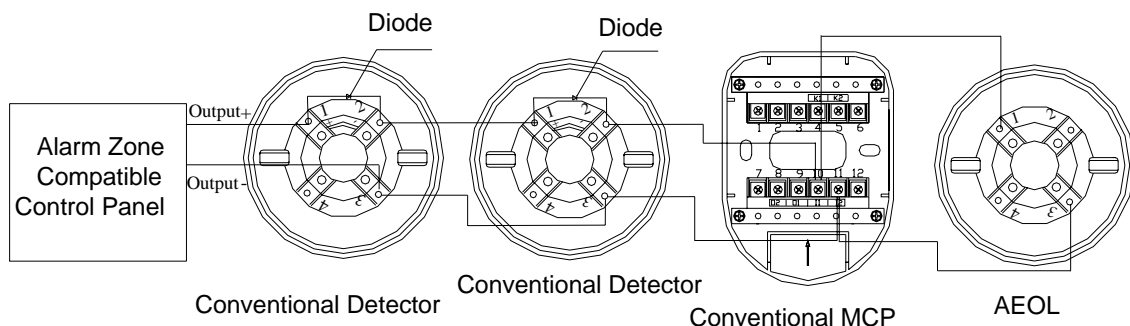

Fig. 5
a) When P-9907 Active End of Line Unit (AEOL) is used as the detector base, that is to install a conventional detector on it. The system composition is shown in Fig. 5.